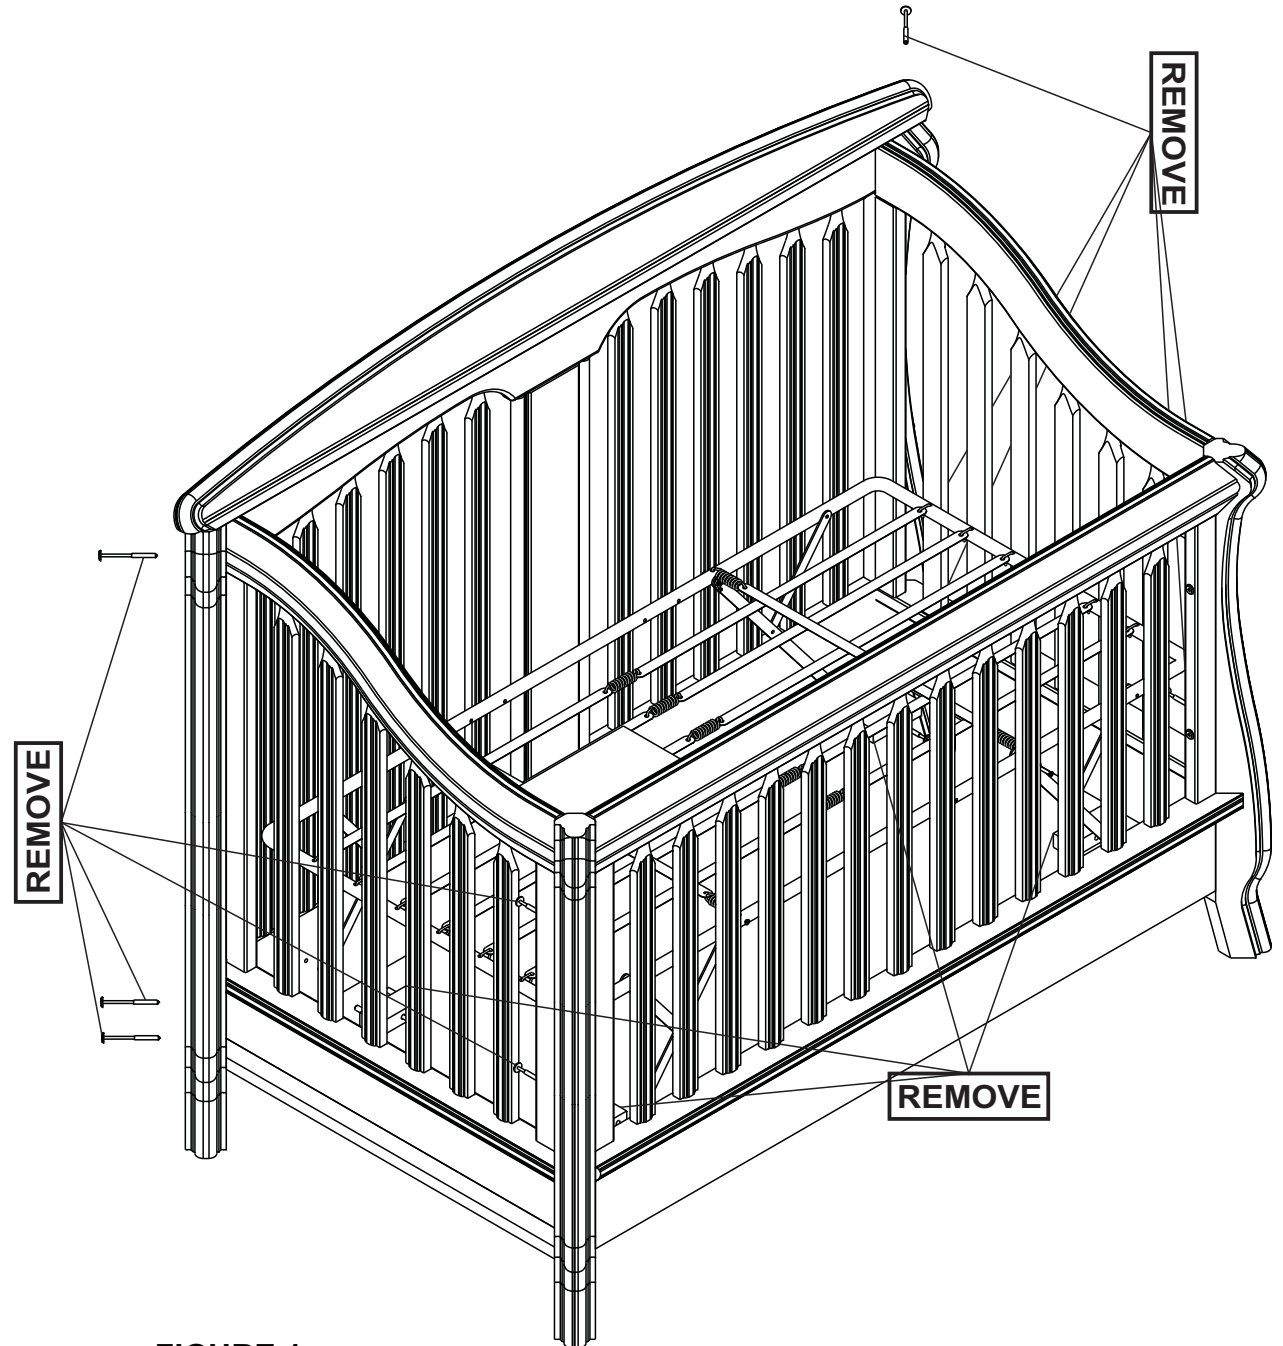

FIGURE 1
- Using the Allen wrench (4) supplied, remove all the 14 Allen bolts shown in Figure 1. Start with the 4 inner bolts which sustain the mattress support, then continue with the 5 bolts from the left side and the 5 bolts from the right side of the crib. Please, take care not to drop and scratch the resulting parts of your crib.